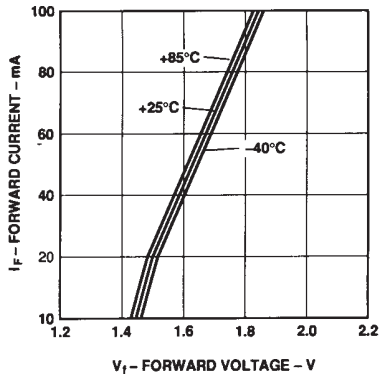

Figure 9. Forward Voltage and Current Characteristics.
*Example for  $I_{F ON} = 100 \text{ mA}$ :  $V_F$  can be obtained from Figure 9 (= 1.84 V).*